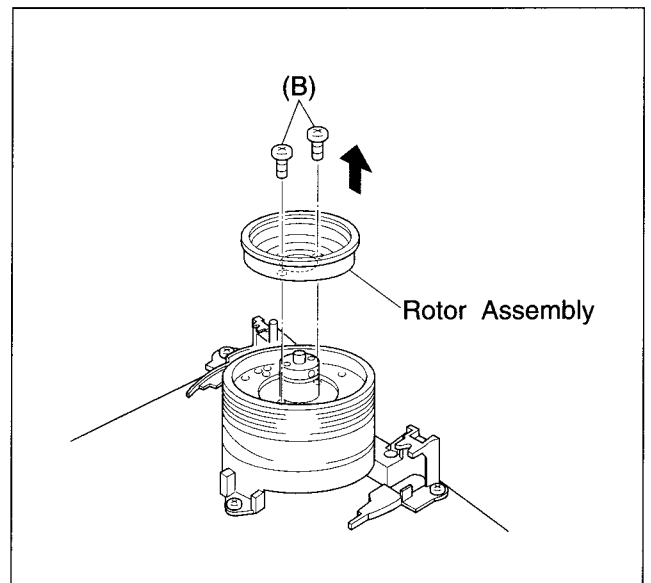

Fig.1-5-23
- (4) Overlap holes (a) of the upper drum assembly with holes (b) of the rotor assembly and secure with 2 screws (B) as indicated in Fig.1-5-23.